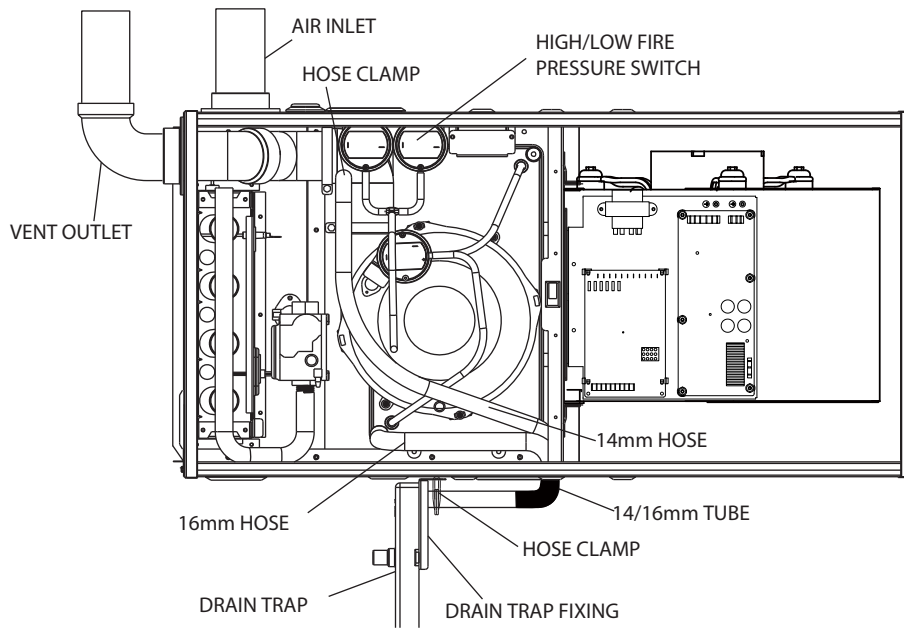
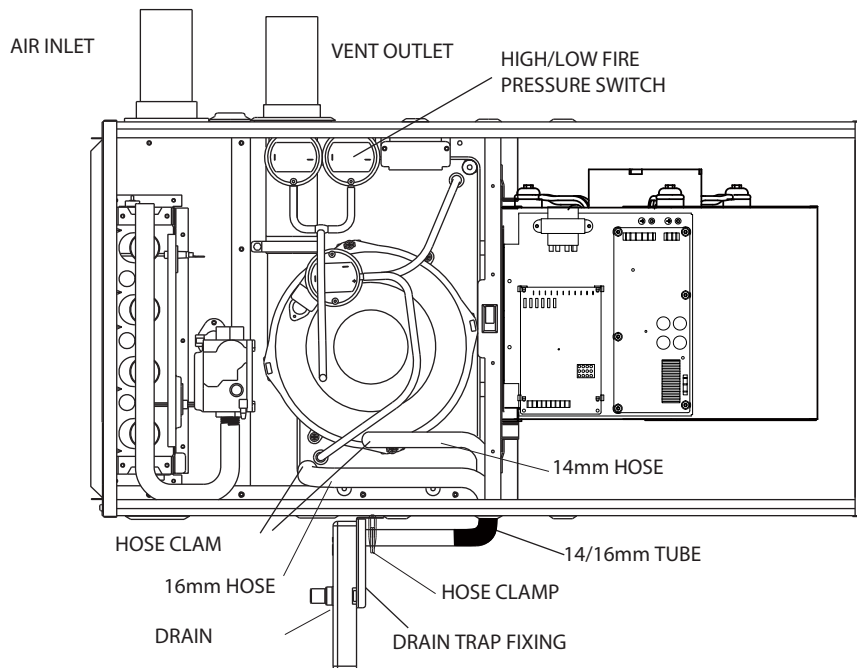
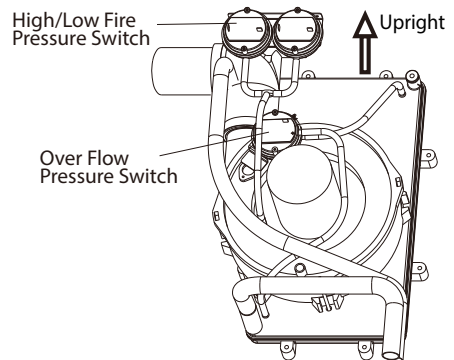

Fig. 6-10 Horizontal Left Side Installation, Vent Through Top Panel
Fig. 6-11 Horizontal Left Side Installation, Vent Through Side Panel
Fig. 6-12 Pressure Switch Position
FOR HORIZONTAL LEFT INSTALLATION (AIR DISCHARGE TO THE LEFT), HOSES OF CONDENSATE OVERFLOW PRESSURE SWITCH NEED TO BE REROUTE. (SEE FIGURE 6-10 & 6-11)
2. Air discharge to the left and vent through furnace top panel (see Fig.6-10 and Fig. 6-12).
2. Air discharge to the left and vent through furnace side panel (see Fig. 6-11 and Fig. 6-12).
In this installation, hoses connecting between ports of overflow protection pressure switch (overflow switch) and pressure tabs on the collector box **MUST be switched**. The overflow switch has two ports, which is different from two other regular pressure switches that have only one port. Make sure that black port (positive) is connected to the lower position tap on condensate collector box and gray port (negative) to higher tap of condensate box. Connecting incorrectly will result in failure to protect condensate overflow. (See Fig. 6-12)